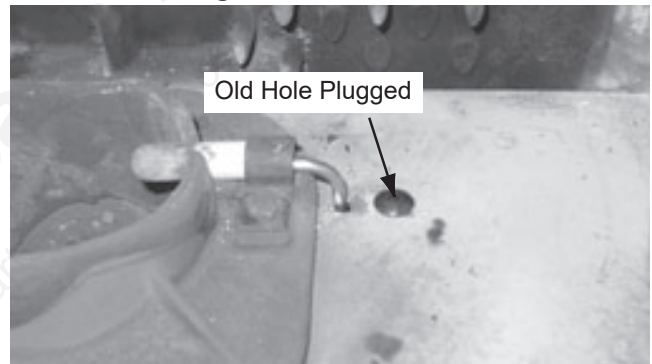

Figure 12
- Install the new Thermocouple (**C1**) through the hole in the firebox. If it was necessary to drill a new hole, plug the hole with the 1/4-20 x 5/8 inch Screw (**C2**) and 1/4-20 inch Flange Nut (**C3**) provided in the kit, as shown in **Figure 12**.